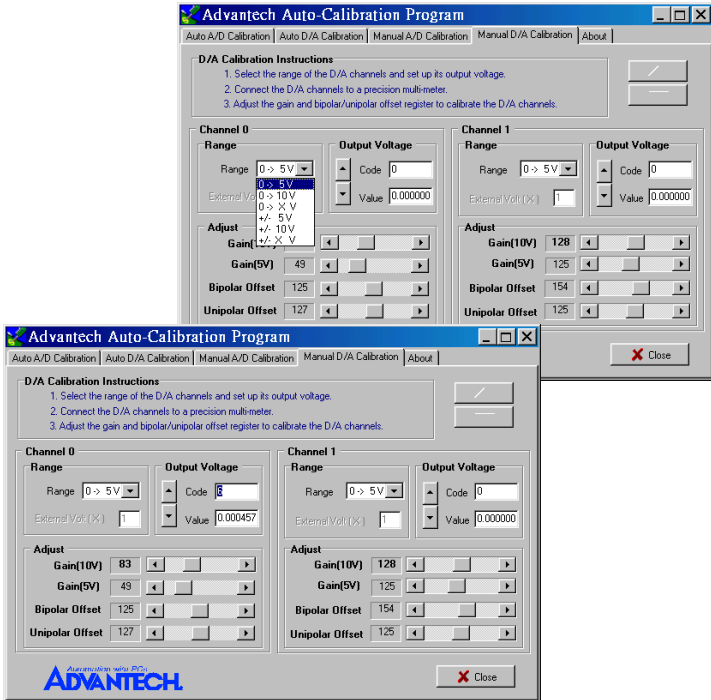

Figure 5-17 & Figure 5-18: Selecting D/A Range and Choosing Output Voltage
Step 2: For example, choose channel 0; select the *Range* and select the wished output voltage code or value from the radio buttons (Fig. 5-17 and Fig. 5-18).